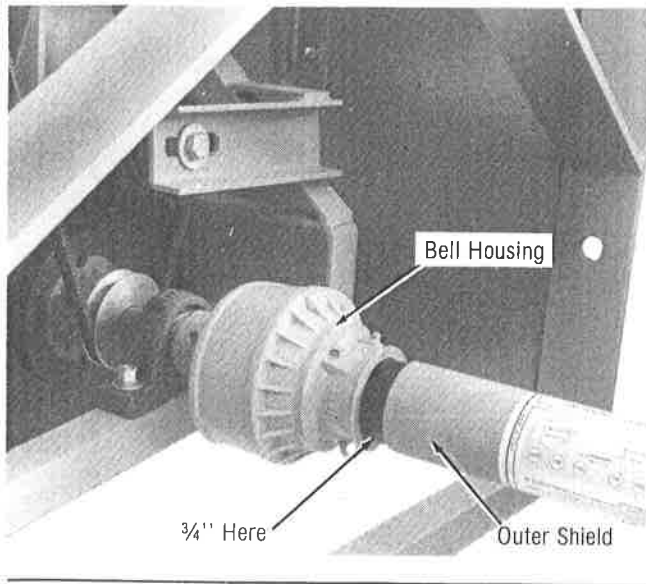

Figure 3 P.T.O. Drive Shaft Installation
5. Allow for 3/4" clearance between the outer shield and the bell housing at the bale chopper end of the drive shaft. See Figure 3.